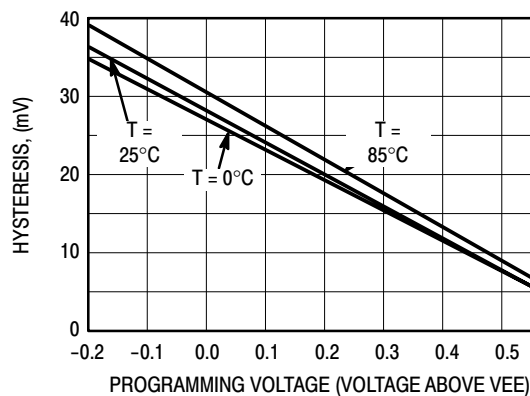

Figure 4. Hysteresis Programming Voltage
9. Refer to Figure 4 and note that the input is at 850 mV ECL levels with the input threshold range between the 20% and 80% points. The delay is measured from the crosspoint of the input signal and the threshold value to the crosspoint of the Q and  $\bar{Q}$  output signals.